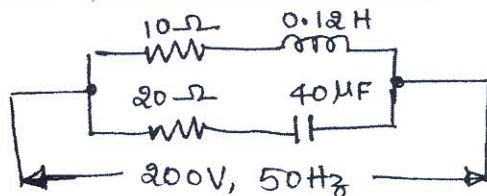

Fig. Q5(c)
- c. For the circuit shown Fig. Q5(c), Find ;